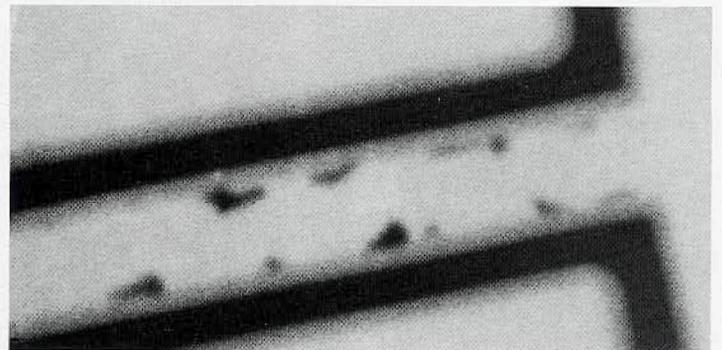

Figure 2: Line voids (irregular dark patches on bright metal lines) 120s HVSEM, 100 KeV Bar = 1 μm
The need for HVSEMs has been driven by semiconductor manufacturers and researchers who want to understand problems associated with electromigration. According to Thompson and Lloyd,⁵ current densities measured in amps per cm² in integrated circuit (IC) devices with micron size metal lines can be 400 times higher than current densities in house wiring. Electromigration occurs when the momentum of electrons moving through micro miniature metal lines causes the atoms in those lines to "move". Metal movement causes holes (voids) in the lines and stress at contact points (Figure 2). Ultimately, circuit line failure can occur when the voids become too large. Presently, the only way to study electromigration is by cross sectioning and polishing the circuit or by etching away the glass. In this type of preparation, the specimen is usually destroyed and the actual cause of the defect may be caused by the prep itself. Using the HVSEM however, the lines below the surface glass can be visualized in real time, even while the circuit is thermally or electrically stressed. Additional uses for the HVSEM include: visualizing fuses, gates, arrays on intact IC wafers or chips, locating film inclusions, defects, and submicron contaminants. Additionally, the HVSEM could be used to examine inclusions and defects in ceramic materials, plastics, and biological specimens that are below the surface. ■